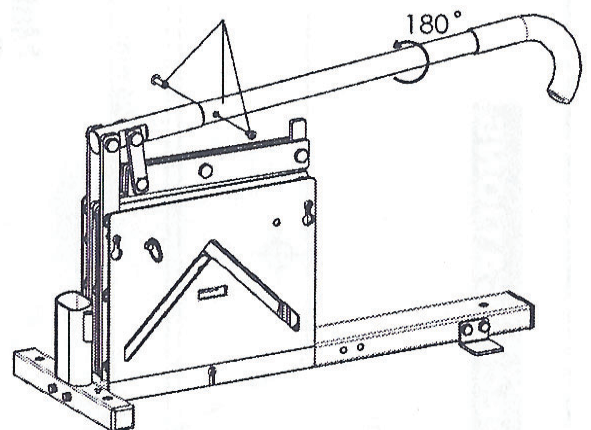

Figure 2
- c. Re-tighten screw.See Figure 2 Below.